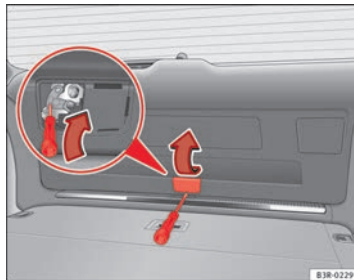

Fig. 76 Detail of the rear lid: emergency unlocking mechanism
- Lift the cover ⇒ Fig. 76 (arrow).
- Insert the screwdriver into the opening ⇒ Fig. 76 (arrow) and push it in the direction of the arrow in order to release the rear lid.